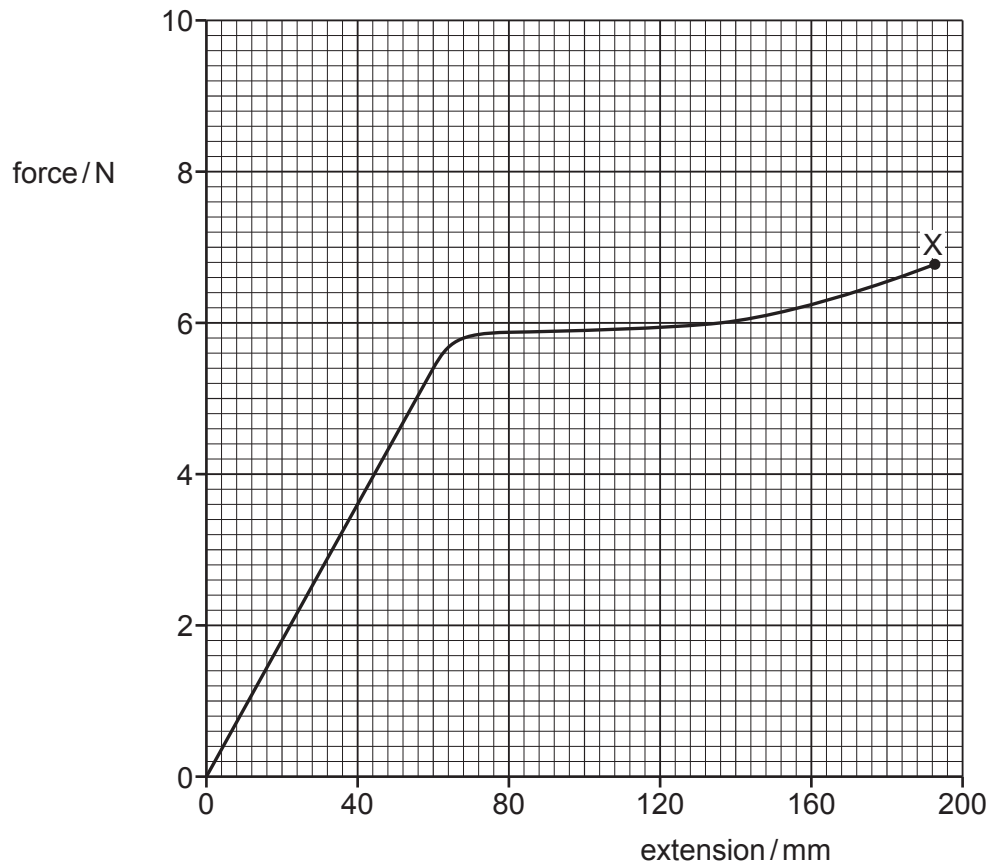

Fig. 3.1
- (b) The variation of the applied force with the extension for a sample of a material is shown in Fig. 3.1.
- (i) On the line in Fig. 3.1, draw a cross (×) to show the limit of proportionality. Label this cross with the letter P. [1]
- (ii) On the line in Fig. 3.1, draw a cross (×) to show the elastic limit. Label this cross with the letter E. [1]